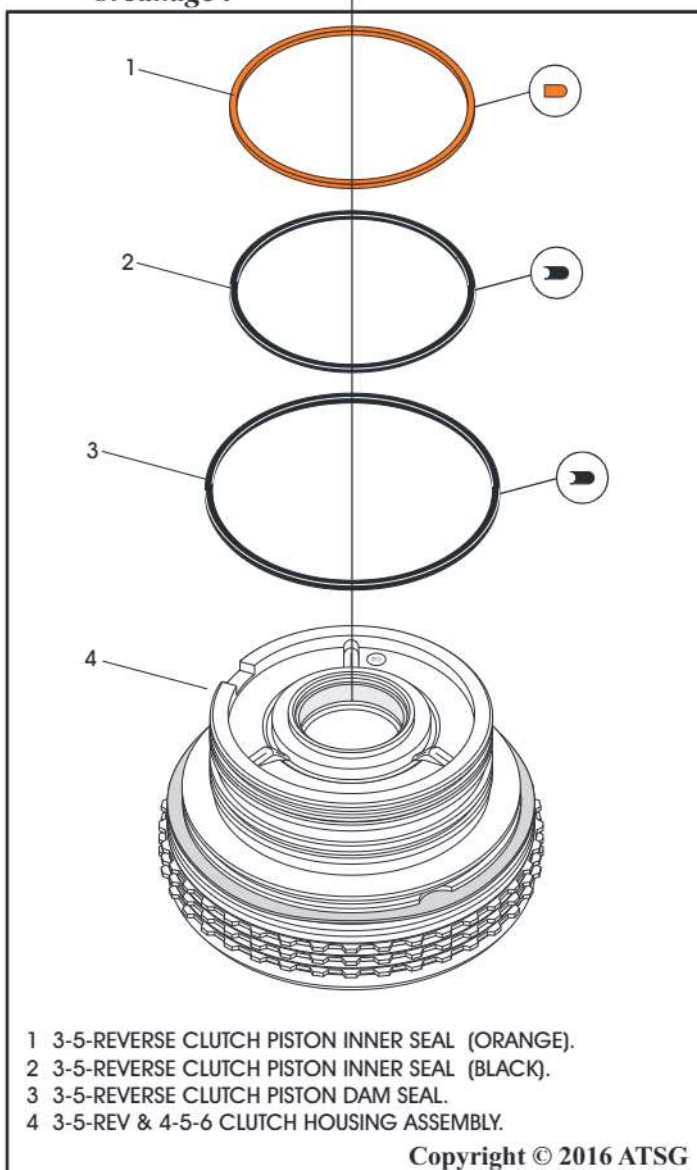

Figure 93
19. Remove and discard the 3-5-Reverse clutch piston inner seals making note of the position of the orange and black seals as shown in Figure 93.
20. Remove and discard the fluid dam seal shown in Figure 93.